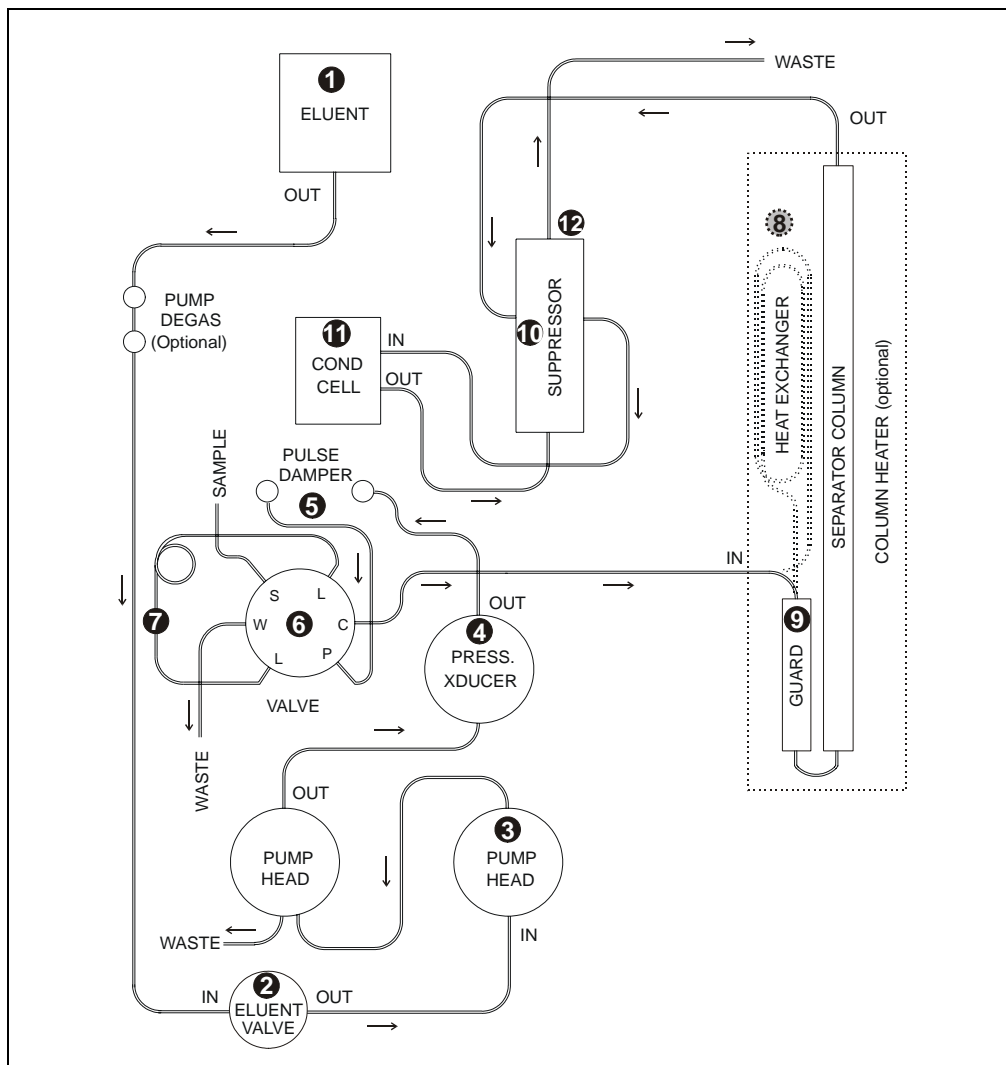

Figure 5-2. ICS-1000 Flow Schematic
2. Follow the ICS-1000 flow schematic in Figure 5-2 and work backward through the system, beginning at the suppressor **Regen Out** port. One at a time, loosen each fitting and observe the pressure. The connection at which the pressure drops abnormally indicates the point of restriction.